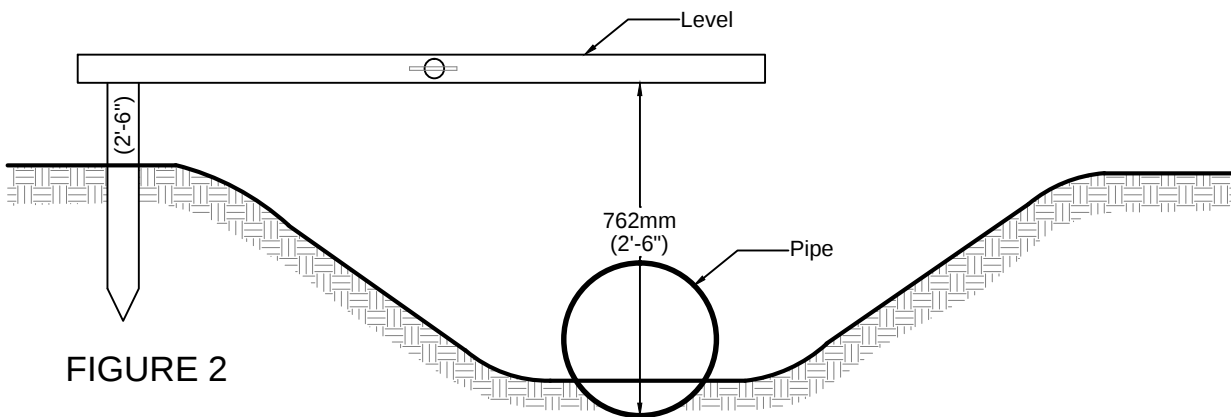

FIGURE 2
- 2 Grade on grade stake is measured from top of stake to bottom of pipe (See Fig. 2)